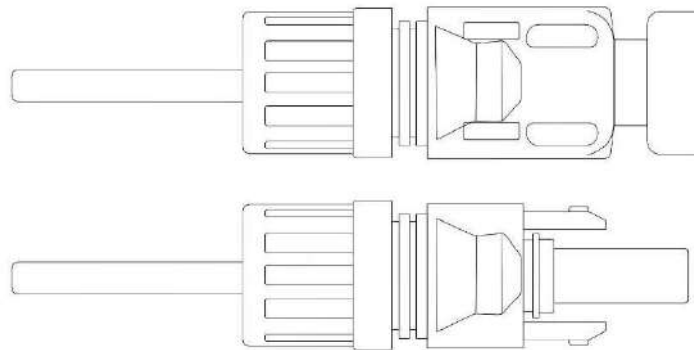

Figure 2.14 Stylus inserted into the top of the connector
3. Insert the stylus into the top of the connector and screw the cover nut to the top of the connector. figure 2.14 .